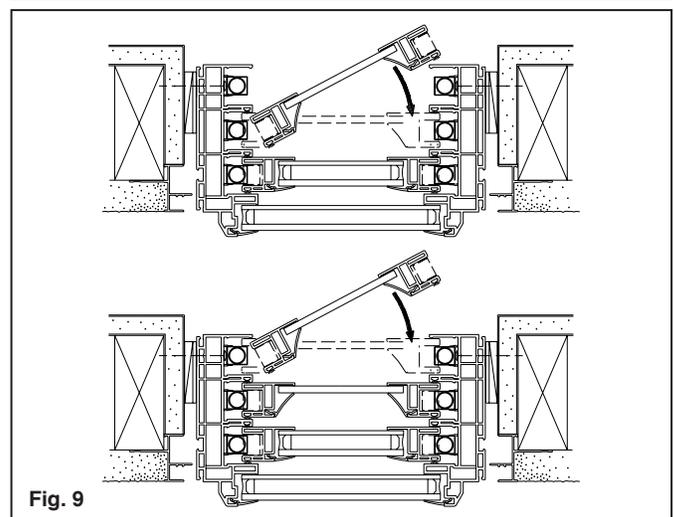

Fig. 9
B. The other two panels are installed in the same manner. See Fig. 9. The second panel will have the locking mechanism installed in the top rail. This panel should have the interlock in the center of the opening and facing into the room. See Fig. 6. The final panel will have the interlock in the center of the opening, facing outward.